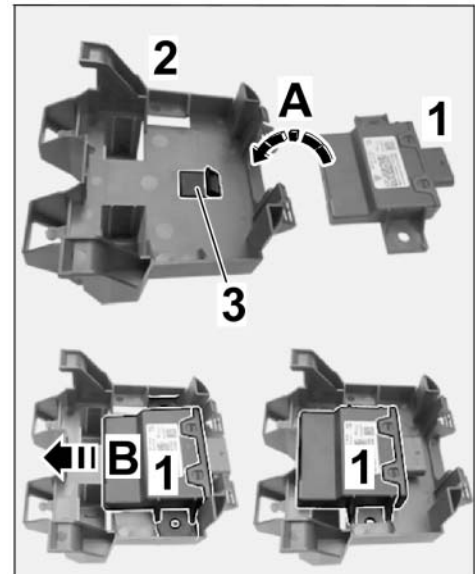

Figure 13
2.1.2 Insert the engine noise control unit at the underside in the control unit holder (⇒ *Figure 13*).
2.1.3 Push the engine noise control unit in the holder to the opposite side of the plug connection (⇒ *Figure 13*), until the control unit is engaged in the holder.